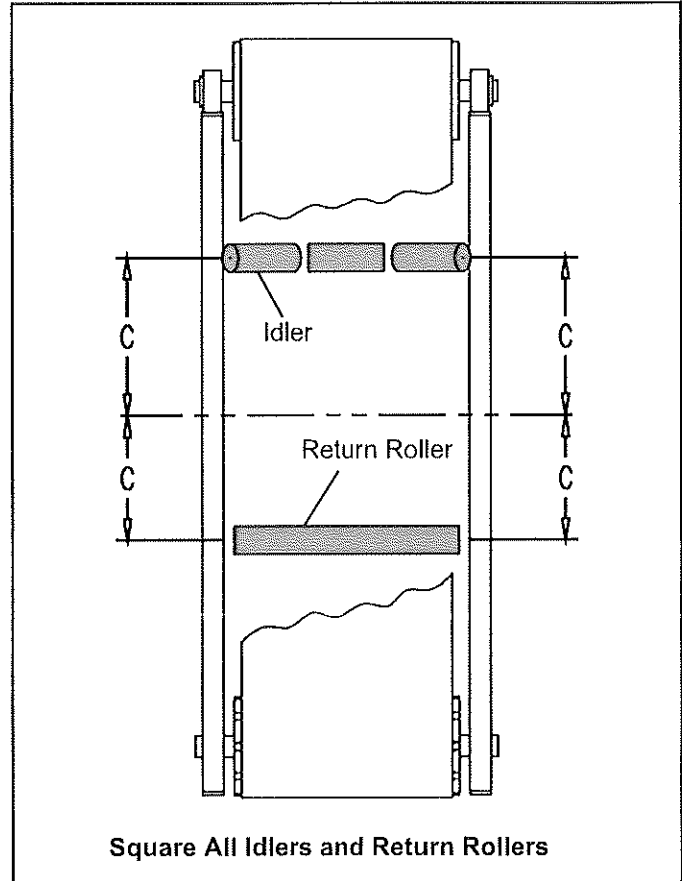

Figure 45
3. Square all idlers and return rollers with the frame by measuring from the straight edge on both sides of the conveyor and tighten the attachment bolts (**Figure 45**).